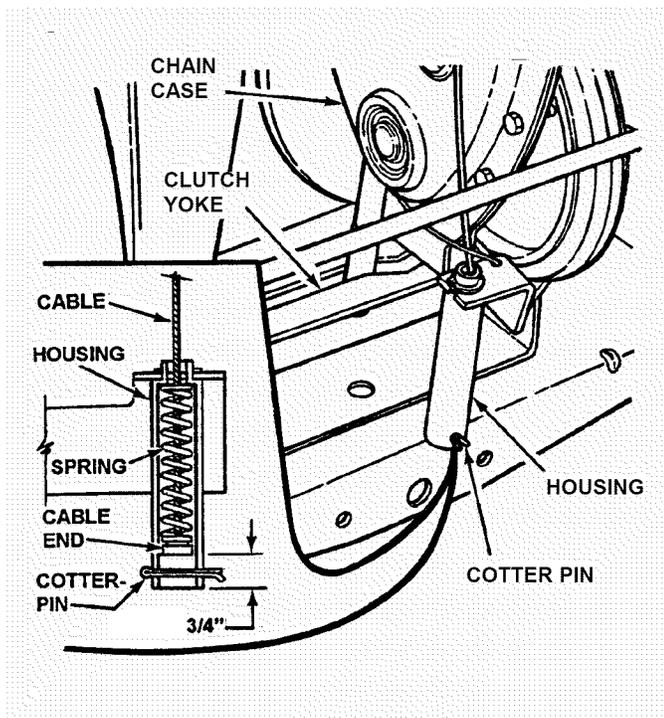

FIGURE 4.9
5. Measure the distance between end of clutch/brake cable and bottom of housing. Measurement should be $3/4"$. See inset, Figure 4.9.
7. Adjust cable up or down using the jam-nuts to obtain a distance $3/4"$ between end of clutch/brake cable and bottom of housing. See Figure 4.9.